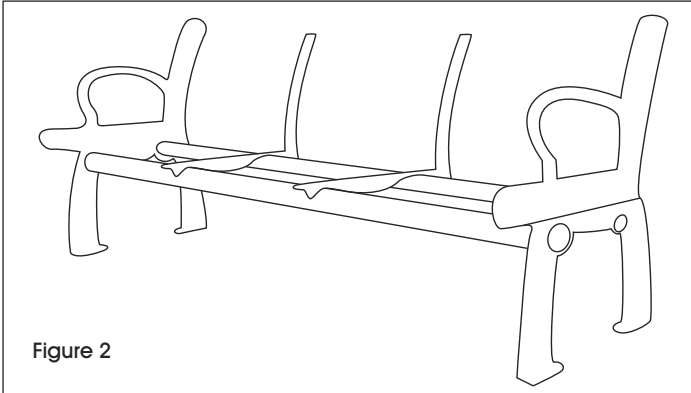

Figure 2
3. Place the braces equal distance apart on the cross support rods. (See Figure 2)